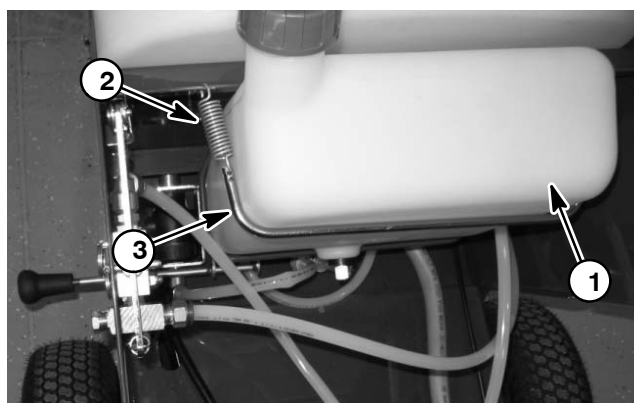

Figure 12
5. Unhook extension spring from hole in tank support (Fig. 12). Remove spring and tank support rod from machine.